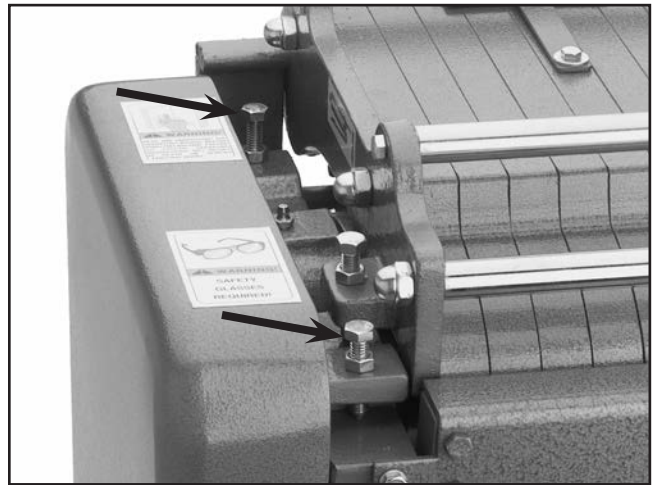

Figure 14. Feed roller adjustment controls
4. Move the Rotacator® directly under one side of the feed roller and set the plunger on a bottom dead center edge. With the adjustment screws shown in **Figure 14**, move the feed roller down .040". (The feed roller has two .040" indications on the dial. Do not skip the first one as the needle moves clockwise or your reading will actually be .060".)